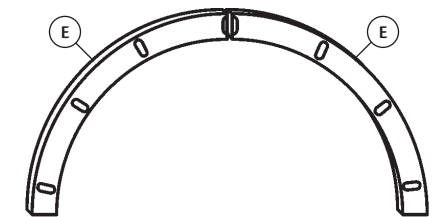

Fig.5
Take two of the Curved Beams (E) for the roof. The curved beams have location slots for the roof struts as Fig.5.